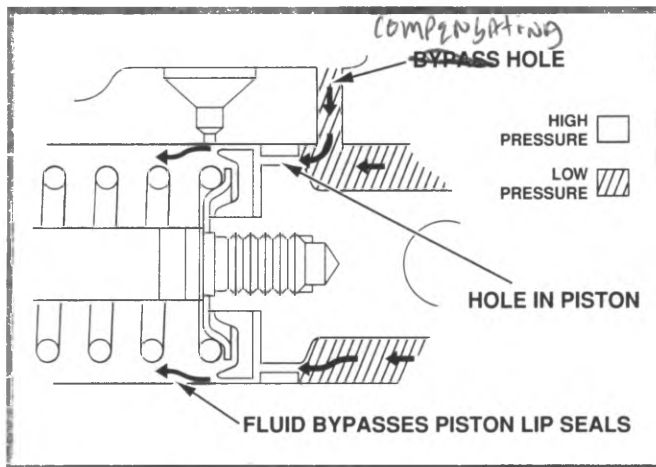

Figure 4-4, Bypass Operation
- The brake fluid from the low pressure chambers passes through holes in the pistons and bypasses the piston lip seals (figure 4-4)